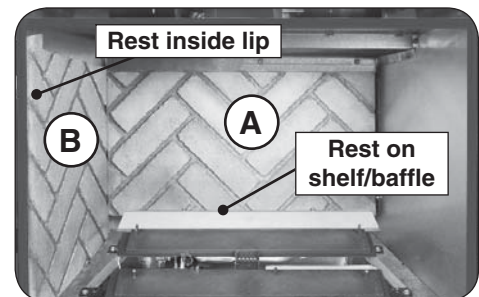

Fig. 31-3 Place rear liner, left liner
4. Place the rear liner at the rear of the unit. It will rest on the shelf/baffle found on the lower rear of the unit. See Fig. 31-3, "A".
5. Place the left liner in the left side of the unit. Ensure it completely rests inside of the front lip of the unit. See Fig. 31-3, "B".